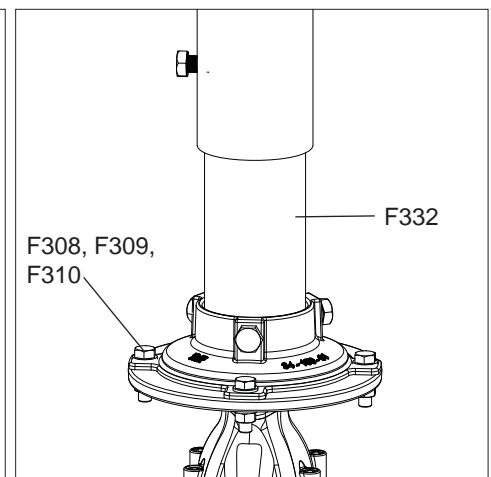

Fig. 4C
6. Lower the complete post indicator onto the valve post indicator plate of the valve. Align the post indicator Bell Adapter (F336) with the valve post indicator plate and install the four sets of Bolts, Nuts and Washers (F308,F309,F310) using a 15/16", (24mm) wrench. (See Fig.4C)